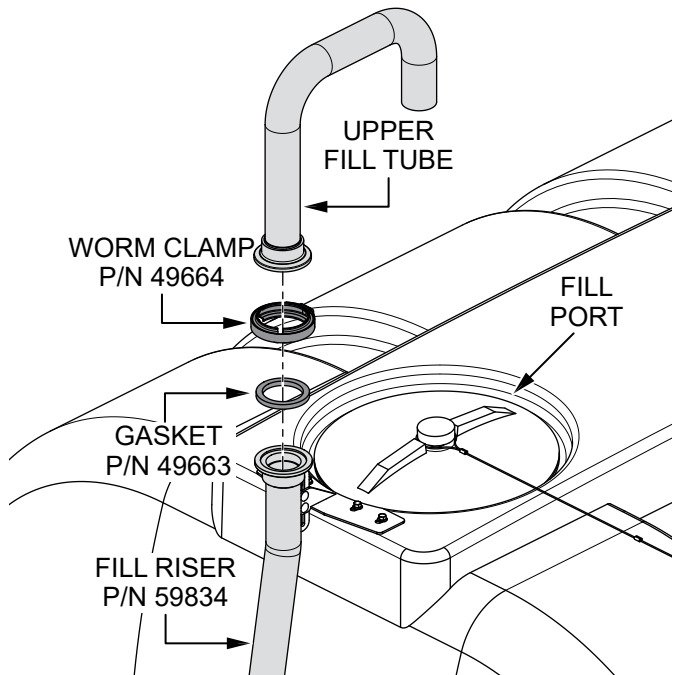

Figure 21. Install Upper Fill Tube
- Use a **gasket (P/N 49663)** and **worm clamp (P/N 49664)** to install the **upper fill tube** that was removed at the beginning of the procedure onto the fill riser (P/N 59834). Make sure the upper fill tube is positioned over the **fill port** as shown in Figure 21, then tighten the worm clamp securely.